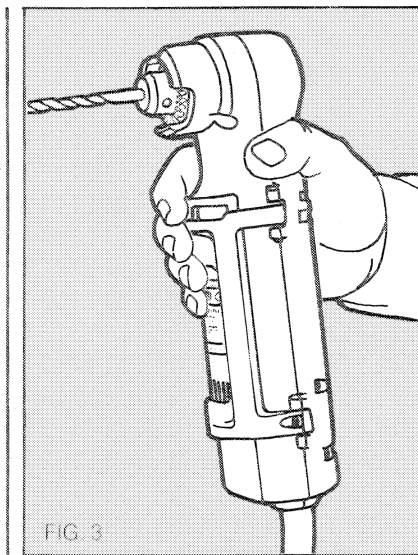
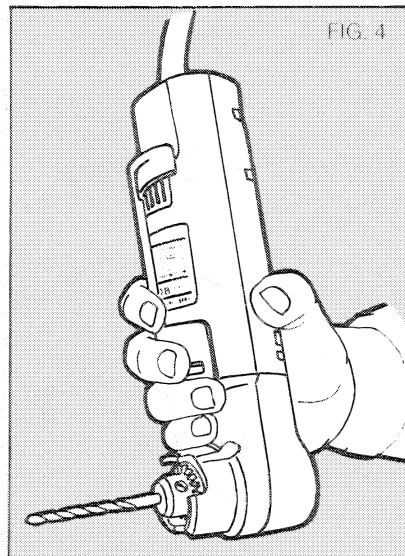
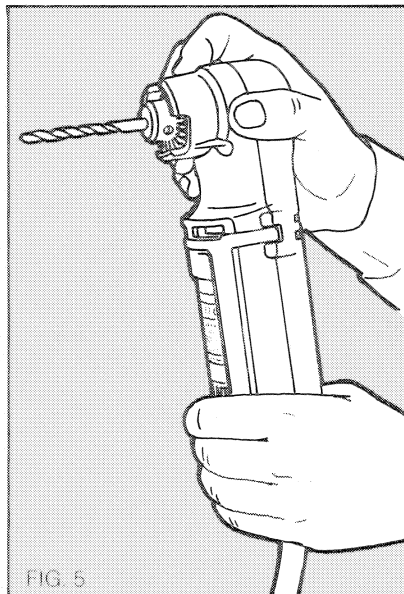

FIG. 3
FIG. 4
FIG. 5
9. For optimum control and comfort, the drill may be grasped in one of the following illustrated manners: Around the "neck" of the drill using one or two fingers to operate the paddle switch as in FIG. 3, in an inverted position with the heel of the hand pushing on the head of the drill and one or two fingers on the paddle switch as in FIG. 4, or holding the head of the drill with one hand and operating the paddle switch with the other hand holding the back end of the drill as in FIG. 5.